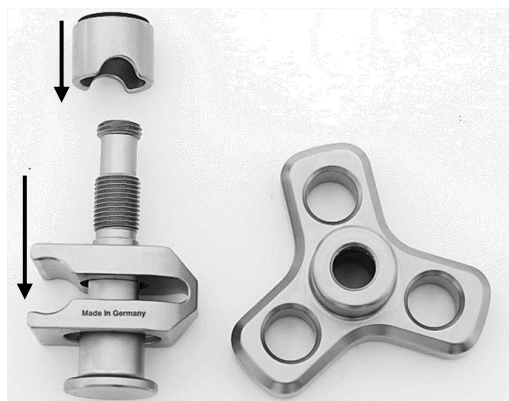

Fig. 6
As illustrated in Figure 6, first insert the clamping piece (3) and then the clamping sleeve (2) over the threaded rod (4).